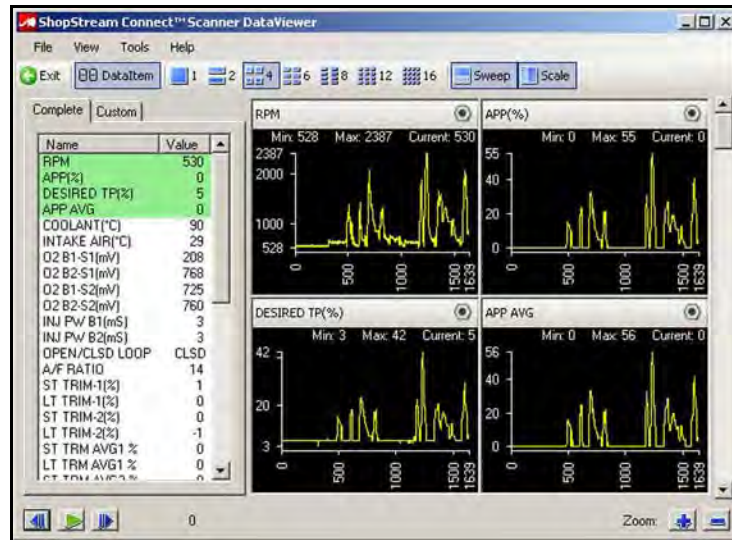

Figure 4-13 Sample changed screen view
2. **Left-click** the mouse and the new selection displays (Figure 4-13).